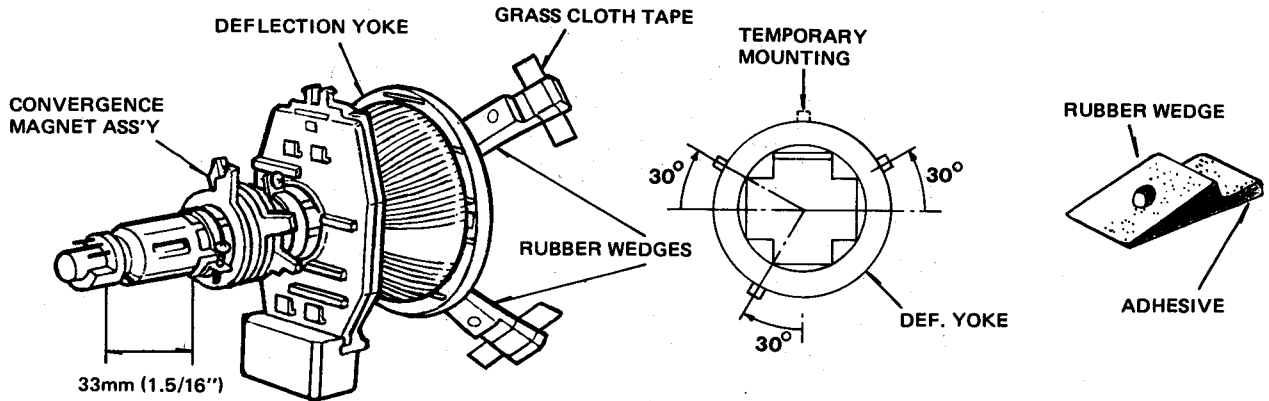

Figure 13 RUBBER WEDGES LOCATION
- Place a wedge as shown in figure 13 temporarily. (Do not remove cover paper on adhesive part of the wedge).
- Stick 3 glass cloth tapes on wedges as shown in figure 13.
- Rotate and spread the tabs of the purity magnet (see fig. 13) around the neck of the picture tube until the green belt is in the center of the screen. At the same time, center the raster vertically.
Convergence magnet assembly and rubber wedges need mechanical positioning following fig.13.